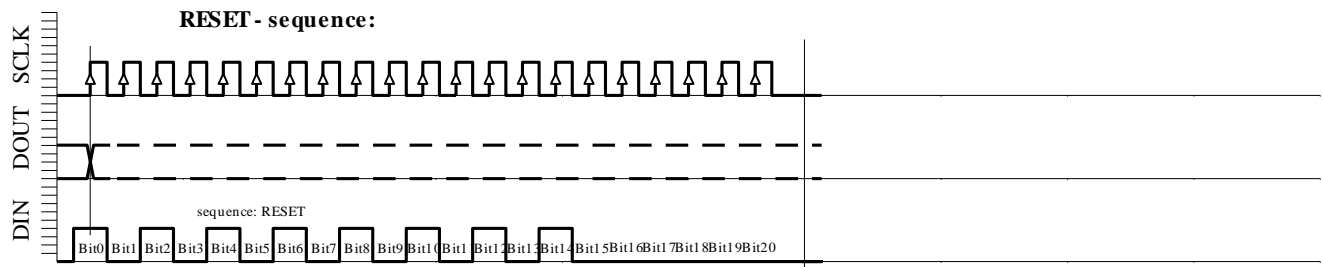

Fig. 6e: RESET sequence (21 bit)
- ◆ RESET sequence (Figure 6e)
The RESET sequence is special as the module in any state recognizes its unique pattern. By consequence, it can be used to restart if synchronization between the microcontroller and the MS5535-30C has been lost. This sequence is 21-bit long. The DOUT signal might change during that sequence (see Fig. 6e). It is recommended to send the RESET sequence before each CONVERSION sequence to avoid hanging up the protocol permanently in case of electrical interference.